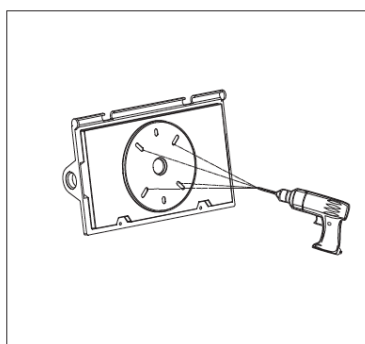
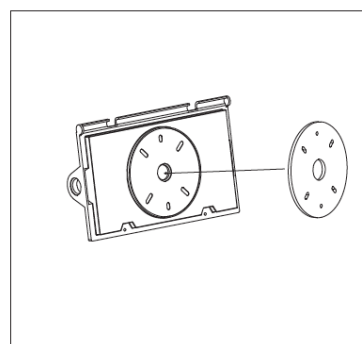

Figure 3
Figure 4
Step 2: Drill an installation holes at the bottom of light, paste the EVA mat (Figure 3 & Figure 4) ;